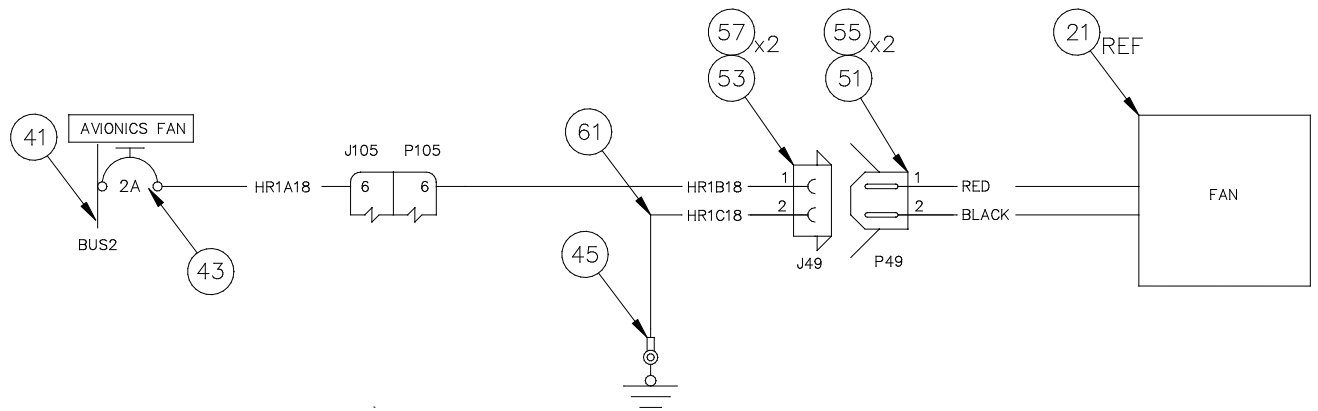

Figure 5 – Electrical wiring diagram
- 2.4. Re-terminate the wires in accordance with Figure 5. Refer to TE Connectivity Instruction Sheet 408-7300 Rev E or later for wire preparation for guidance.
- 2.5. Mark the connector housings using a label or indelible black ink accordance with Figure 5.